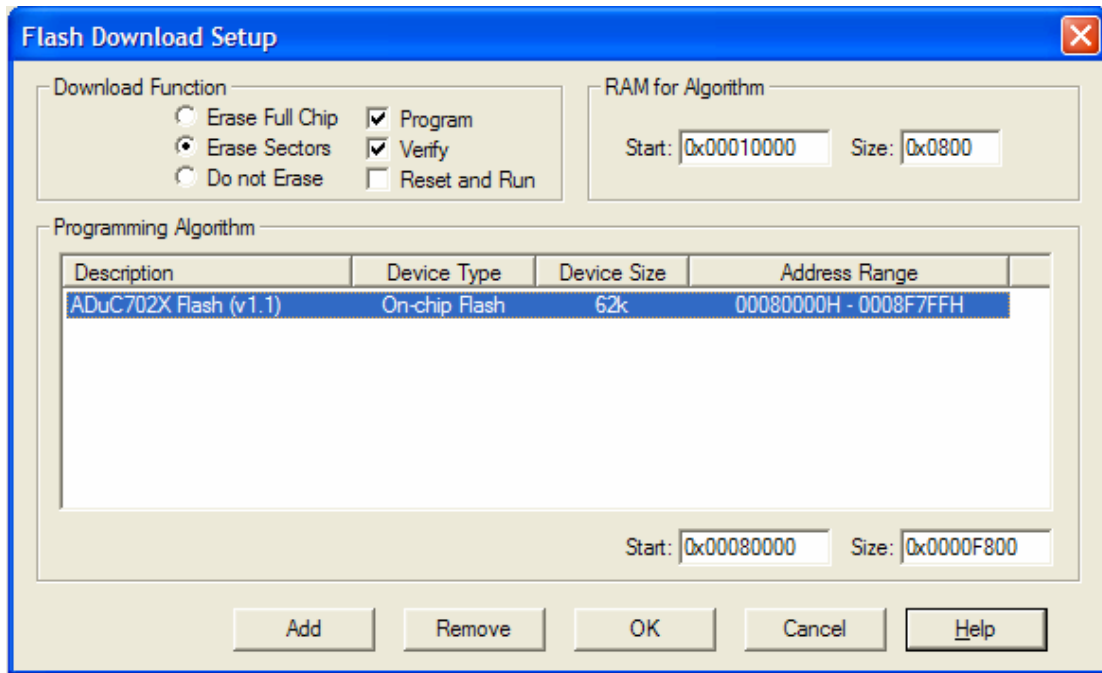

Figure 10
(6) Verify the settings in the utilities window as figure 10 shows.